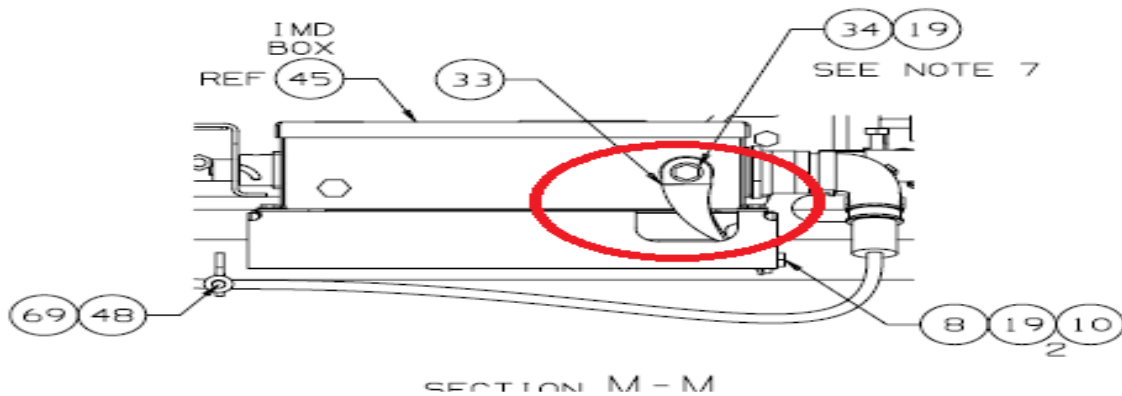

Figure 13: HV Isolation IMD Box Ground Strap Location
51. Locate the HV Isolation IMD Box Ground Strap shown in Figure 13.